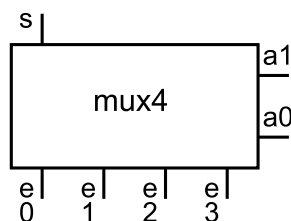

Figure 1.8: Interface of a 4-input data multiplexer
- ☐ Create a macro from the circuit, and label it as `mux4`. Configure the inputs and outputs as shown in figure 1.8.